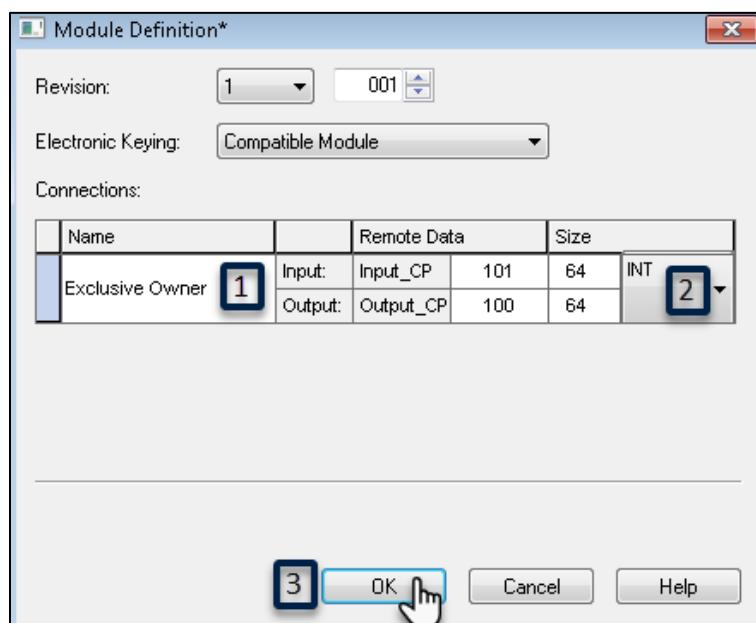

Figure 25: Module Definition Window
- Then click on **Change** button to set a connection type as per **Figure 25**.